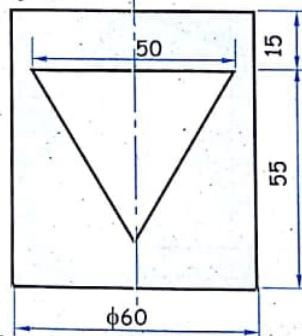

FIG. 12.73
19. The figure 12.73 given below shows the front view of the cylinder of 60 mm diameter of base and 70 mm in height. An equilateral triangular slot is cut right through it as shown. Draw the lateral surface development of the cylinder.